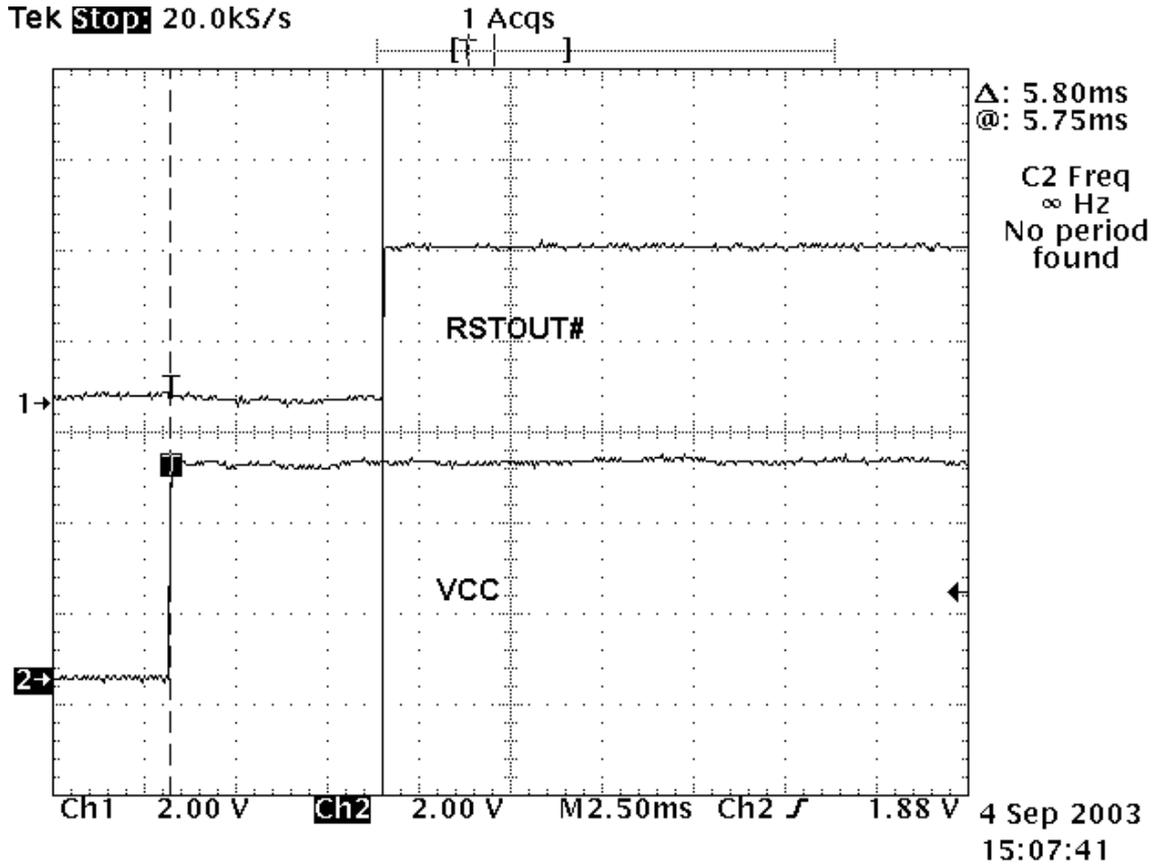

Figure 2. - RSTOUT# will go high 5.6 milliseconds after Vcc is applied.
1. **Pin 4, RESET# being held low or floating.** While RESET# is held low, the RSTOUT# signal will drive low to prevent the 1.5K ohm pull up resistor on USBDP from going high. This 1.5 K ohm pull up resistor on USBDP to the 3.3 Volts on RSTOUT# is used by the system to detect that a device is present. The system can detect that a high speed device has been connected by looking for USBDP being pulled high (USBDM is pulled high for a low speed device). If RESET# is tied to VCC then RSTOUT# will go high when the oscillator has become stable. You can tell when the chip has come out of reset as RTSOUT# will go high (3.0 - 3.6V). The chip will continue to stay in reset for 5.6 milliseconds after RSTOUT# goes high. This is shown in Figure 2.